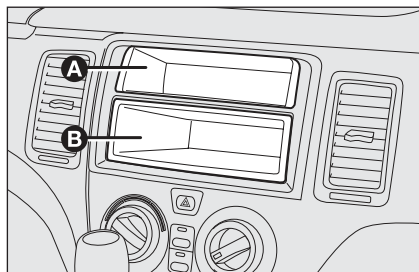

fig. 2
- with fixed oddment compartment **A** and removable oddment compartment (DIN) **B** for sound system installation **fig. 2**;